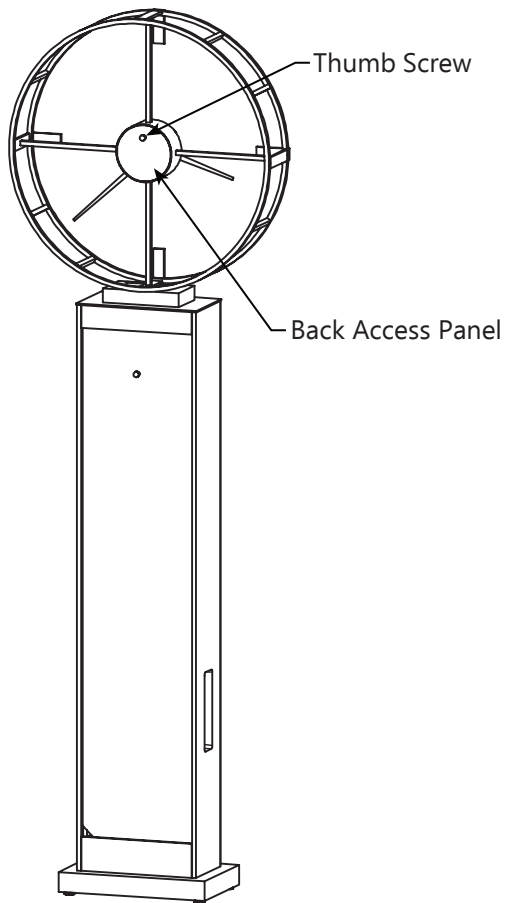

Figure 6
11. Access the clock's quartz movement through the Back Access Panel (Figure 6).